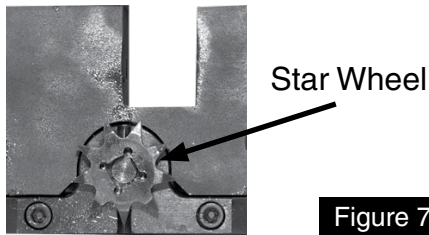
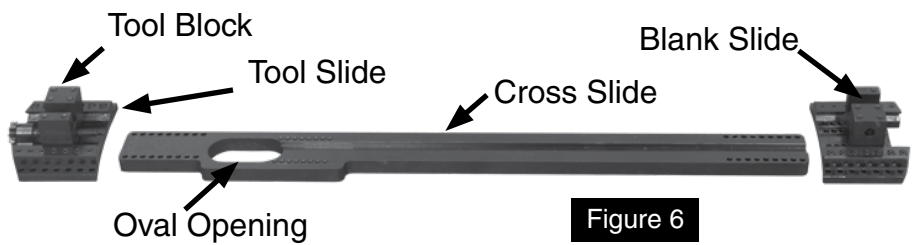

Figure 7
Figure 6
**Cross Slide Mount** - Cross slides are available in a variety of lengths to match your application requirements. The cross slide attachment uses a tool slide on one end and a blank slide on the other end. The tool slide and blank are mounted on the ring at 180° positions. Bolt both slides to the ring at a point where the leading edge is equal to the O.D. of the flange bolt ring (Figure 6).
Turn the star wheel on the tool slide until the tool block is fully retracted (Figure 7). Locate the cross slide on the tool block at a point where the oval opening (Figure 6) is centered over the surface to be machined and bolt it securely to the tool slide and the blank slide. Mount the counter-bore assembly so the barrel is centered in the oval opening and bolt it securely.